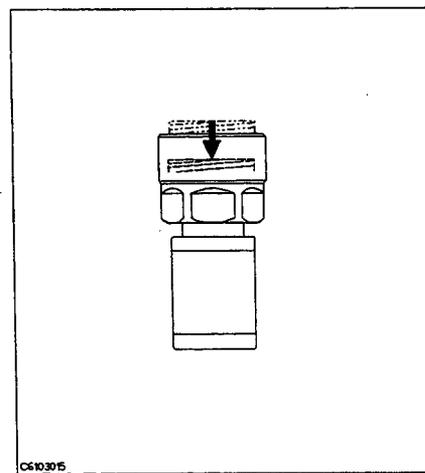

Figure 4-10.
12. Verify that the connector sleeve is retracted fully as shown in Figure 4-10.